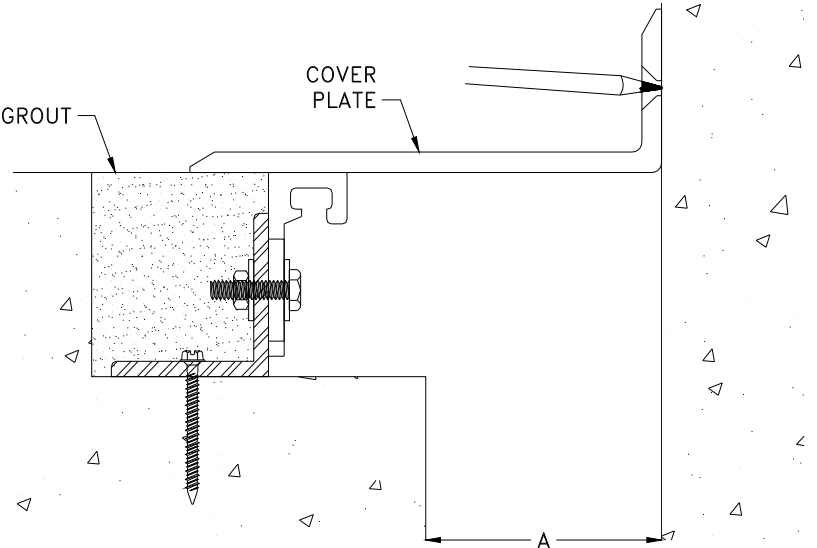

Figure 17
- STEP 29.** Using the cover plate as a template, mark the locations for the anchors on the wall (see Figure 17).